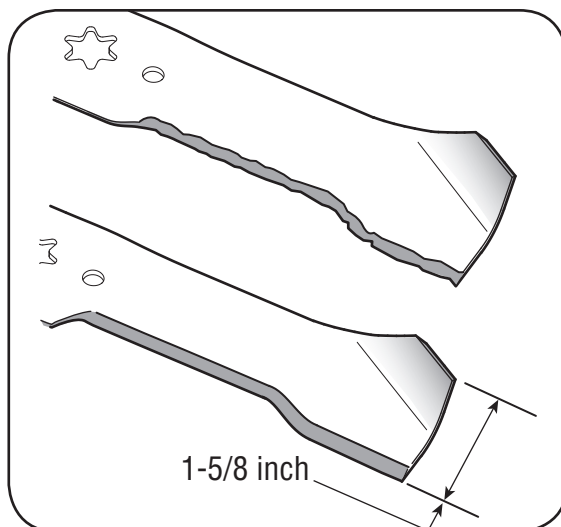

Figure 19
**IMPORTANT:** If the cutting edge of the blade has already been sharpened to within 1 5/8" from the edge, or if any metal separation is present, replace the blades with new ones. See Figure 19.